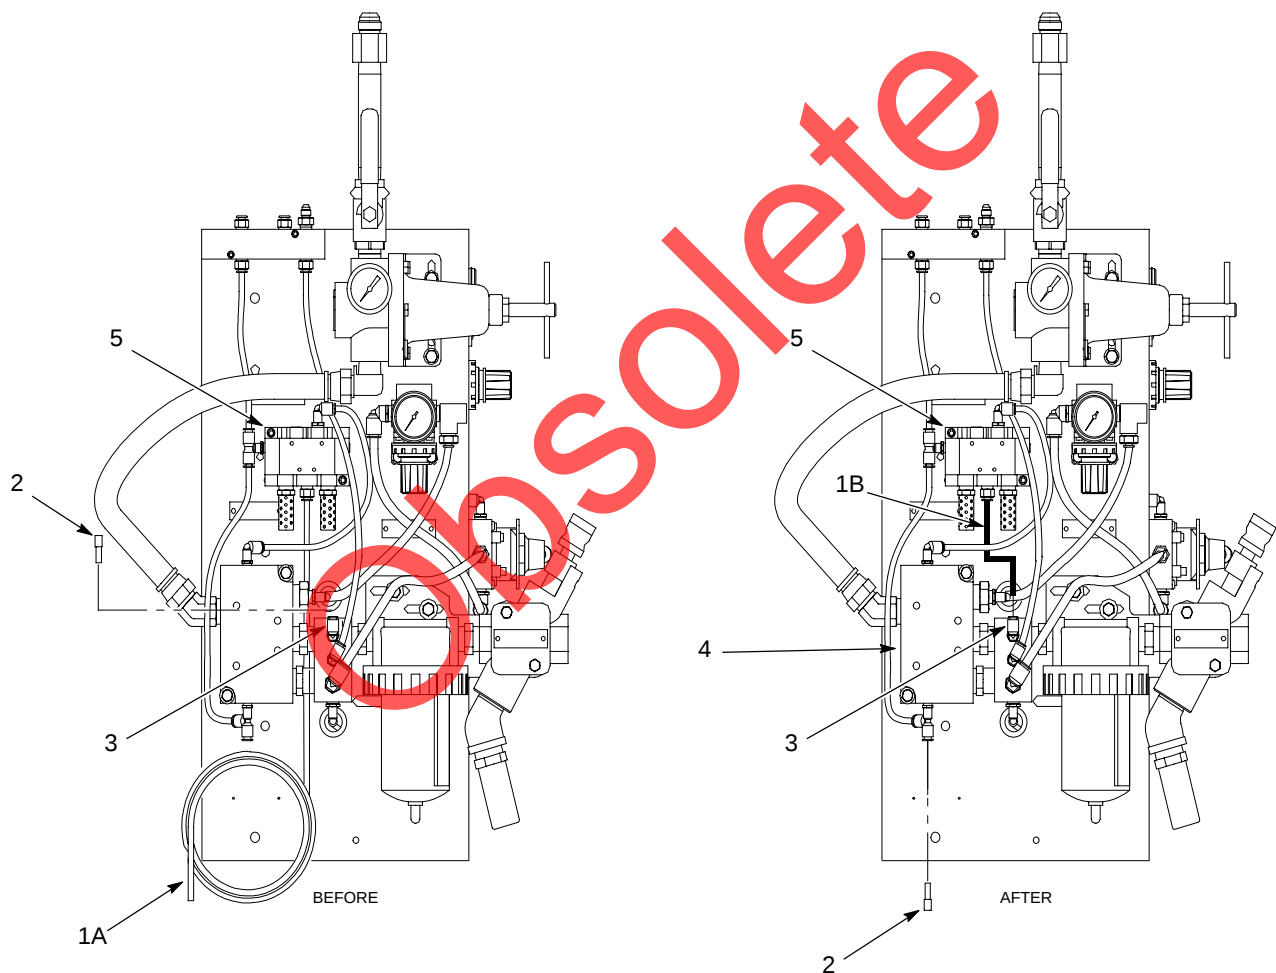

Figure 5 Standalone Configuration
1. See Figure 5. Remove the plug (2) from PORT S1 on the main air manifold (3). Install the plug into the T-fitting on the air motor control valve (4).
2. Cut the tubing (1A) connected to the air logic valve (5) to approximately 7 inches.
3. Connect the 7-inch piece of tubing (1B) from the air logic valve (5) to PORT S1 on the main air manifold (3).